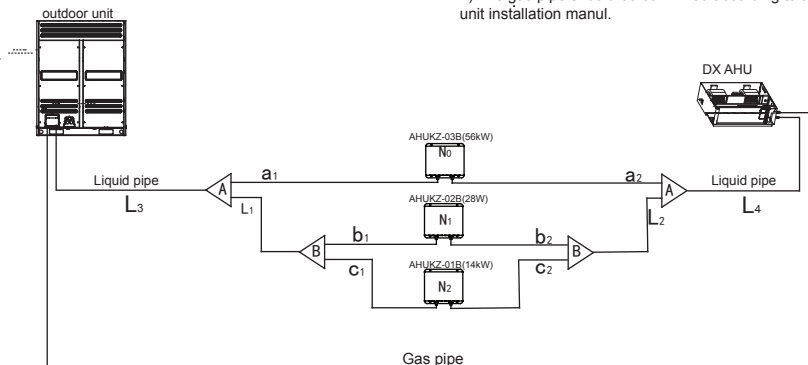

Fig. 6-1
Pipe name	Code(refer to Fig.6-1)
e.x.1: Refer to Fig.6-1, the capacity of downstream controller box to L₄ is 560+280+140=980, the pipe is Φ19.1.